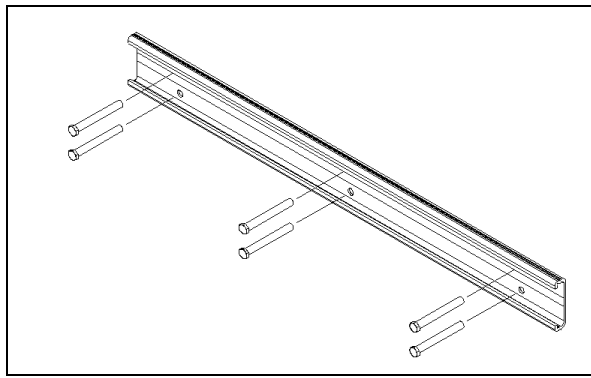

Figure 11
- 2) Install the wall plate on the wall. The wall plate must be installed on a concrete wall with six (6) 3/8 in concrete anchors or on three (3) 2 x 3 (minimum size) wooded studs with two (2) 3/8" dia. (M10) and 4 in long lag bolts on each stud (see Figure 11).